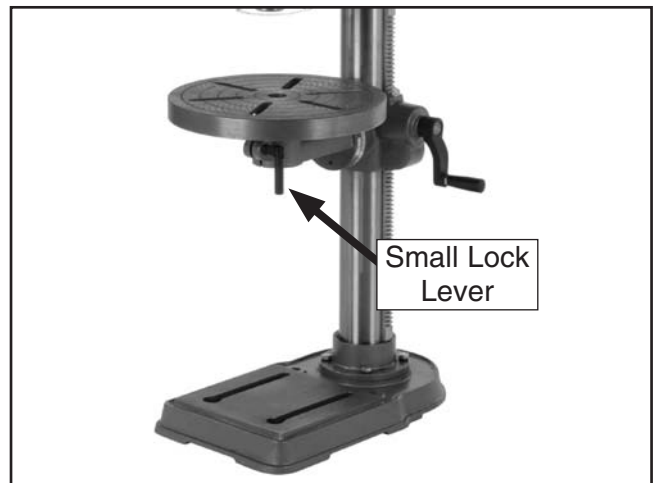

Figure 19. Table installed.
2. Tighten the small locking lever (**Figure 19**) to secure the table in the table support assembly.